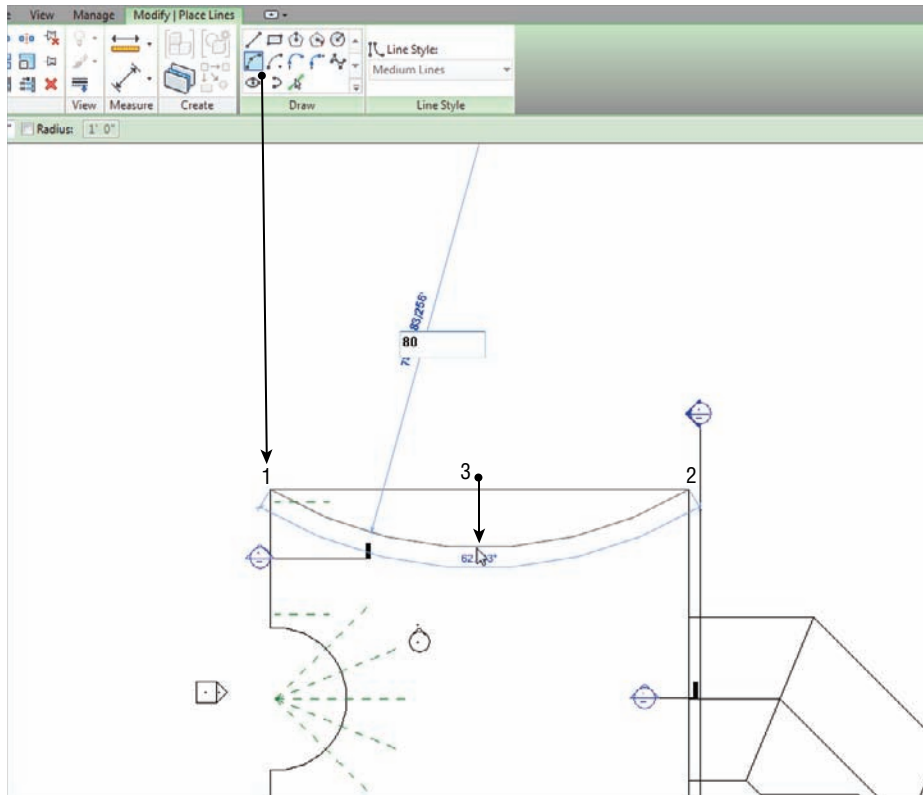

FIGURE 12.85 Drawing an 80'-0" radius arc
8. On the Draw panel, click the Start-End-Radius Arc button, as shown in Figure 12.85.